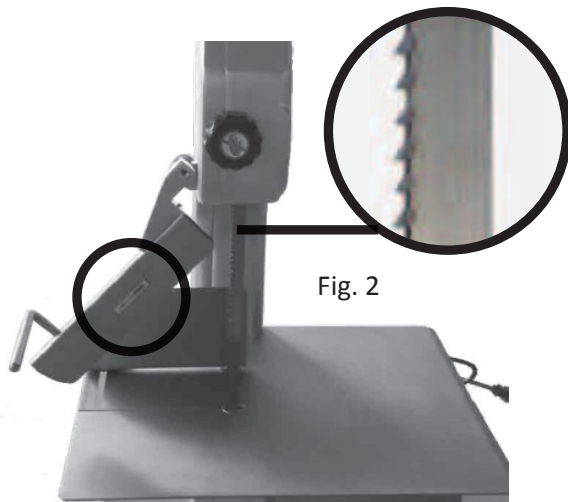

Fig. 2
4. When using the saw, push the handle of the safety fence evenly and parallel from left to right as shown below (see FIG 2).
3. When installing the blade, its teeth edge should face towards the safety fence (#38). (See FIG 2 above)